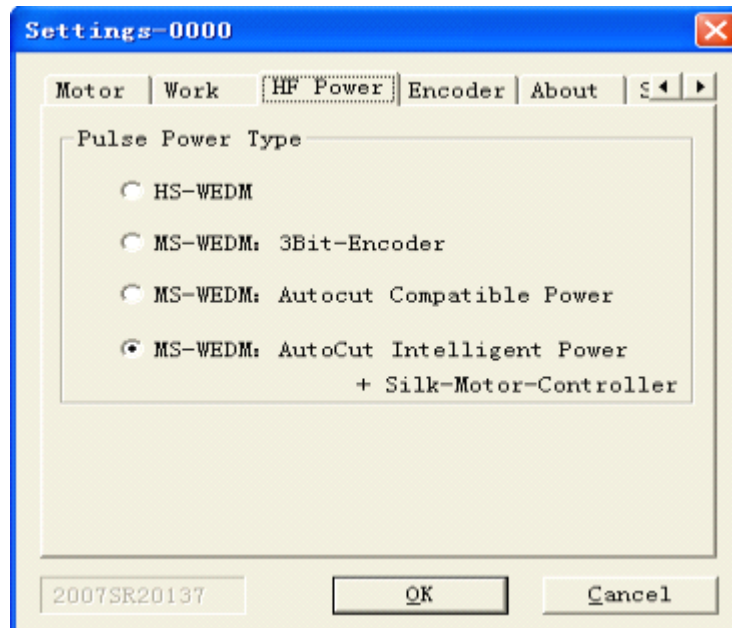

Figure 5.9: Setting-High-Frequency
3) **High-Frequency (Figure 5.9):**